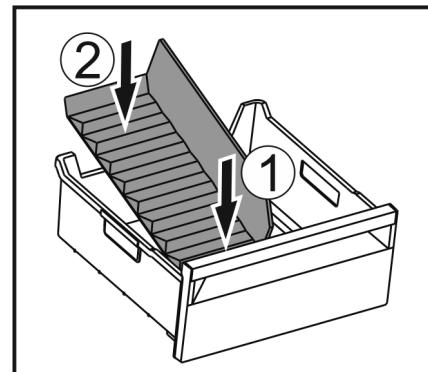

Fig. 117
- ▶ Insert the front part of the ice compartment divider. *Fig. 117 (1)*
- ▶ Lower the rear part of the ice compartment divider to the drawer bottom. *Fig. 117 (2)*